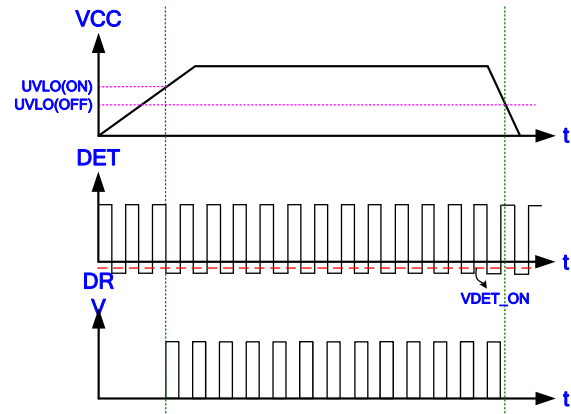

Fig. 13
An UVLO comparator is implemented in it to detect the voltage on the VCC pin. It will assure the supply voltage enough to turn on the LD8526S controllers and further to drive the synchronous rectifier. As shown in Fig. 13, the UVLO(ON) and UVLO(OFF) are 3V and 2.8V respectively.